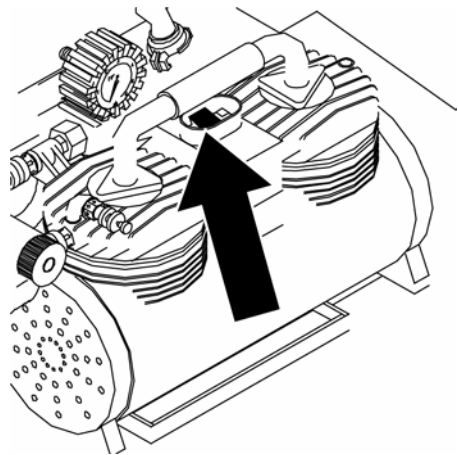

Fig. 55: Switching the compressor on
12. Switch on the compressor via the black button (Fig. 55/arrow).